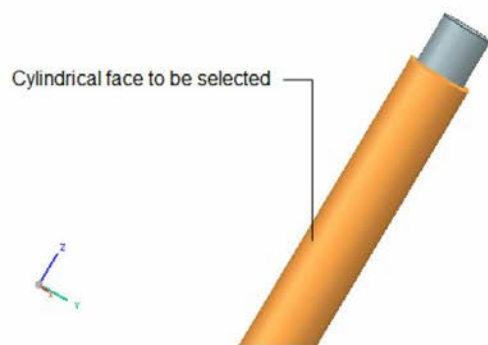
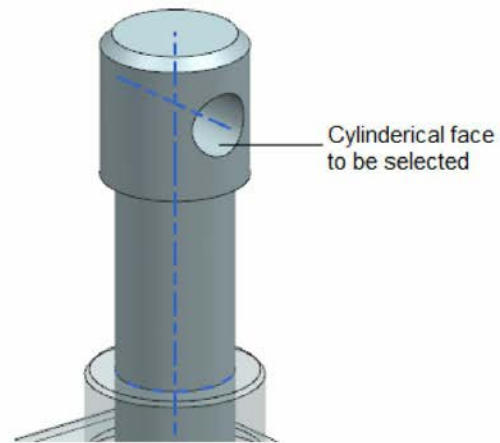

Figure 8-64 Cylindrical face to be selected from the Handle
Figure 8-65 Cylindrical face to be selected from the Screw
- f. Insert the Handle into the assembly window and apply the required assembly constraints; refer to Figures 8-64 through 8-69.
5. Select the cylindrical face of the Handle as the first object, refer to Figure 8-64. Next, select the cylindrical face of the Screw as the second object, refer to Figure 8-65.